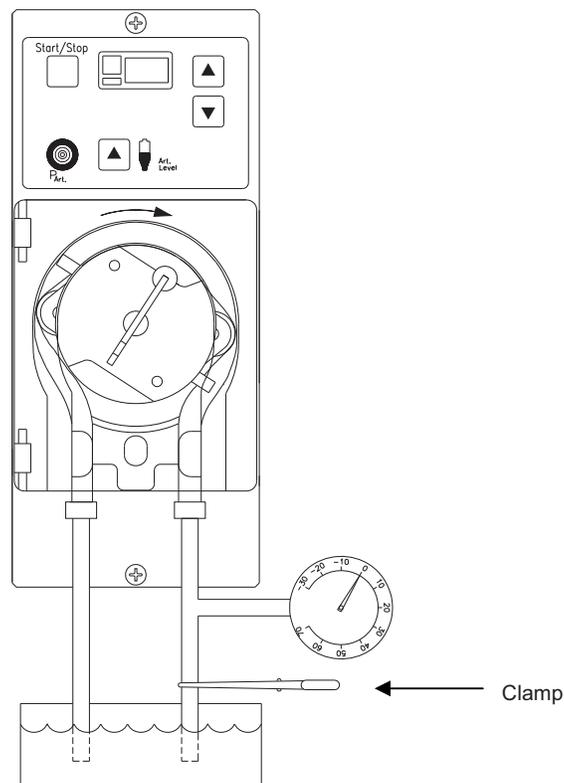

Figure 8. Blood Pump Rotor Occlusion Test
- Connect a pressure gauge to the bloodline in the pump (See Figure 8) and allow the rotor to pull up $37^{\circ}\text{C} \pm 1.5^{\circ}\text{C}$ water. Let this fluid flow past the pressure gauge long enough to clear out air.
- With the pump running at 600ml/min, clamp the outlet so that the pressure gauge is between the output of the pump and the clamp (See Figure 8). The peak pressure on the gauge must be between 25 and 35psi. If the peak pressure is out of range, replace the blood pump rotor springs (Fresenius part number 650174).